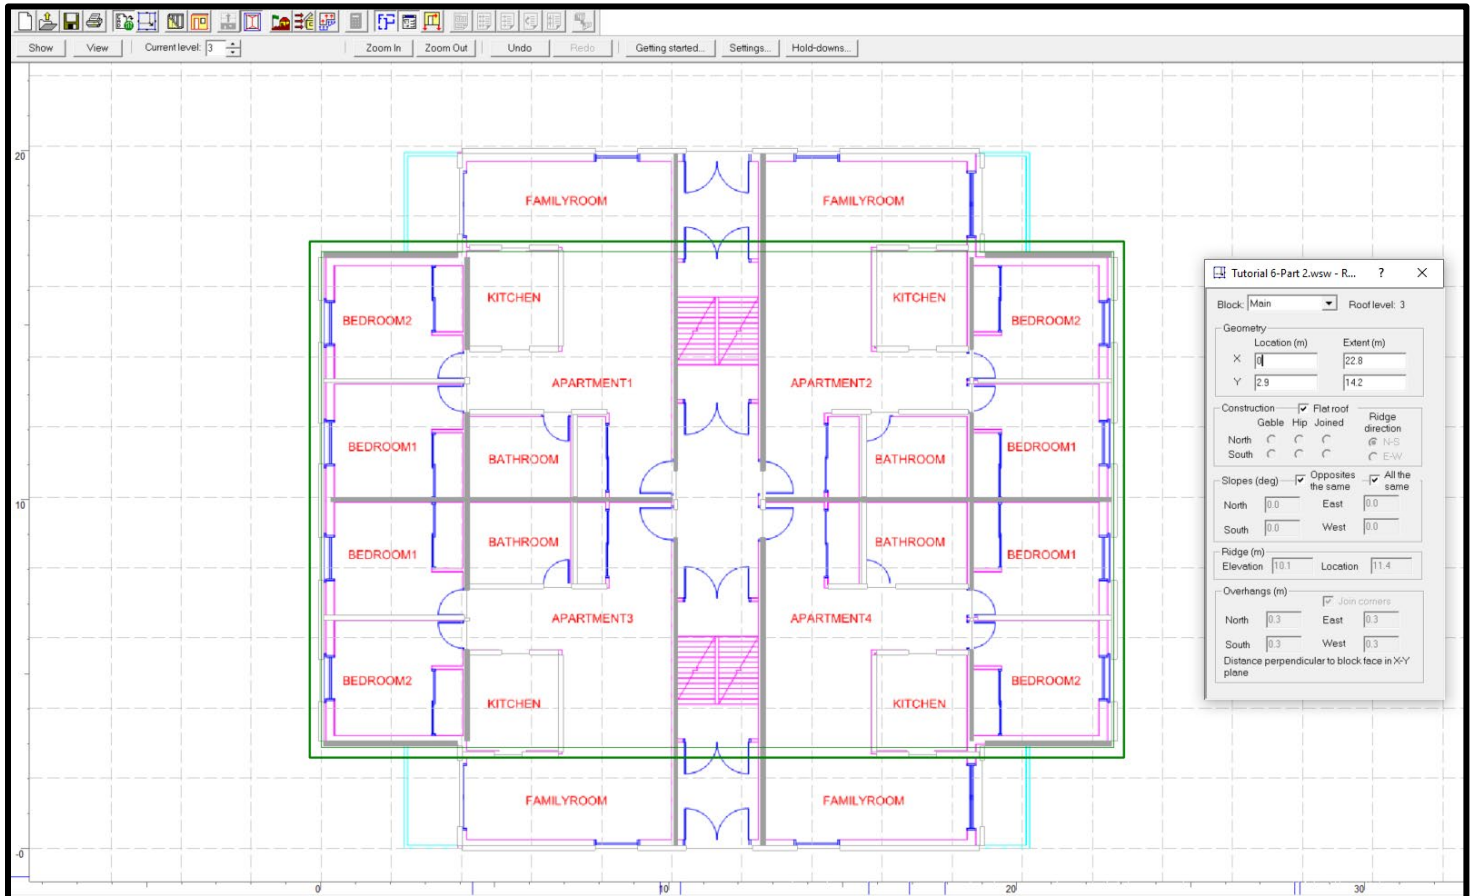

Figure 18: *Shearwalls Tutorial 6 – Modify Roof Input for Main Block*
2. Click on the **Main** structure block and adjust the roof block as shown in Figure 18.